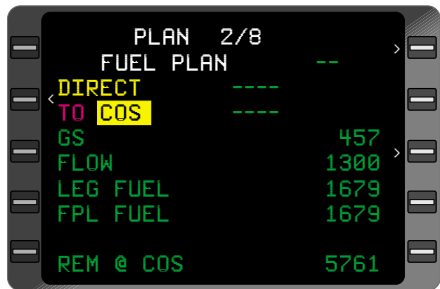

Figure 3-169
*NOTE: The **REM @** field only appears when a **DIRECT TO** leg is displayed. (Figure 3-169) The **REM @** Field will be displayed in yellow anytime the **REM @** value falls below the reserve fuel programmed on Plan Page 1.*
*NOTE: Information between any desired waypoints can be reviewed by selecting the **FUEL PLAN** Page and entering a **FROM - TO** leg from the Flight Plan. (Figure 3-168) or by executing the present position direct procedures (Figure 3-169). If the **TO** waypoint is not on the selected Flight Plan, the Flight Plan number and origin/destination fields will display dashes.*